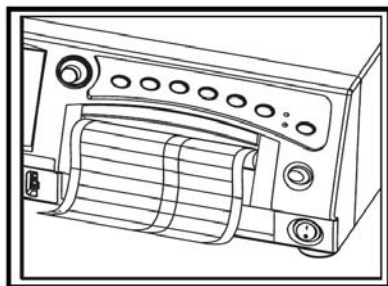

Figure 2-5
6. Slowly close the strip chart recorder door, being careful not to skew the paper ("Figure 2-5").